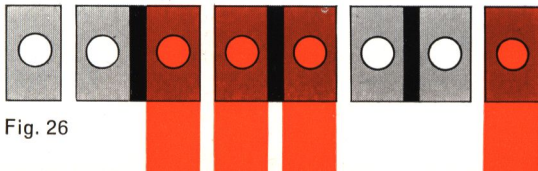

Fig. 26
2. to prepare the camera for this stage. At the same time as the new film frame advances the mirror is lowered and the shutter is cocked. Cocking the shutter takes place in a clockwise direction during one turn of the film transport crank. While the shutter is being cocked the signals showing "shutter set" (18) and "film advanced" (20) are actuated. Fig. 26 shows the various combinations that may exist, for example, after changing a magazine. If, at any time, you are unable to turn the film transport knob it may be because: